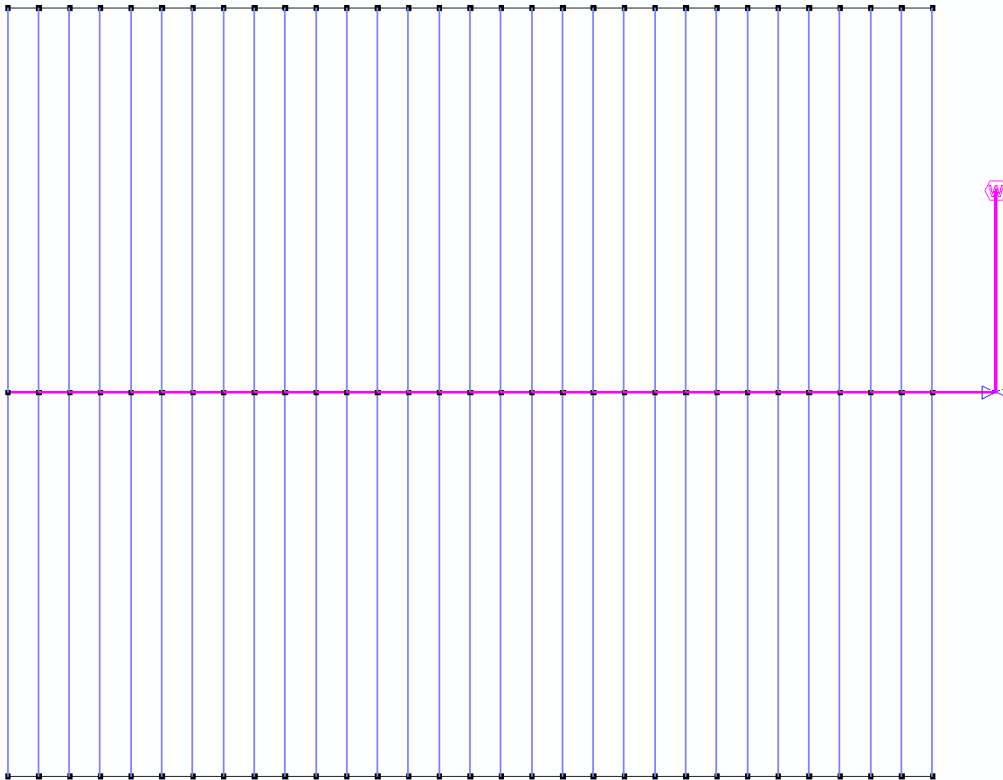

Figure SD 6
15. Now select *Mainline|Pipe*. Leave the pipe as “Computer Selected” at 0 depth. Click [OK]. Connect the mainline pipe to the control valve with a left click and draw upward for approximately 10m. Left click to place the end then *Right-Click* and select *Restart*. Select *Mainline|Water Supply* and place on the end of the mainline pipe with a left click as in Figure SD 6. Leave the Water supply details as the default; simply click [OK].